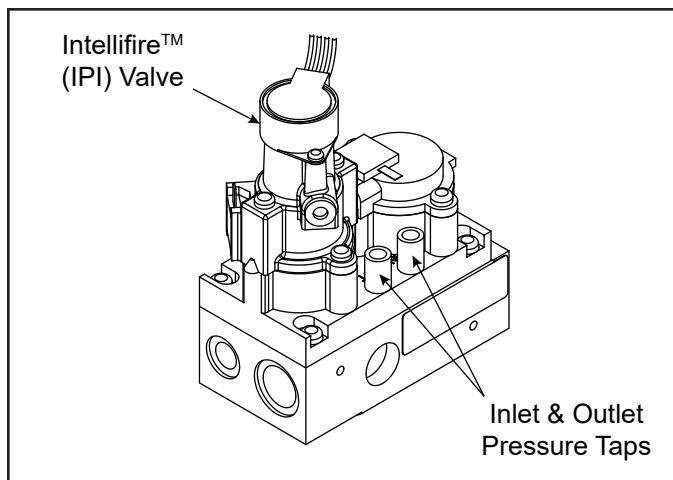

Figure 6.4 Pressure Taps
1. Turn captured screw counterclockwise two or three turns. See Figure 6.4.